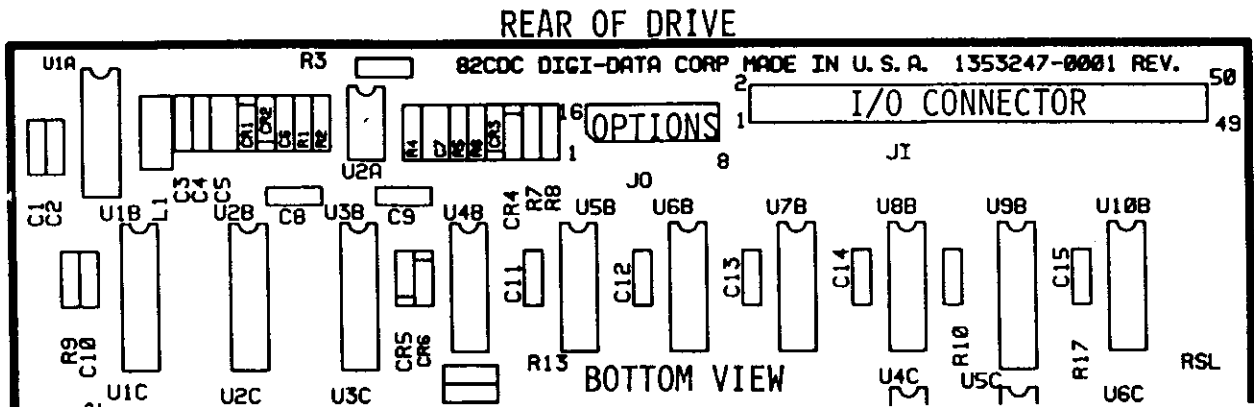

Figure A-2, Options and I/O Connectors
- 2) Plug the I/O cable into the drive I/O connector, with pin 1 toward the center of the board. See figure A-2.